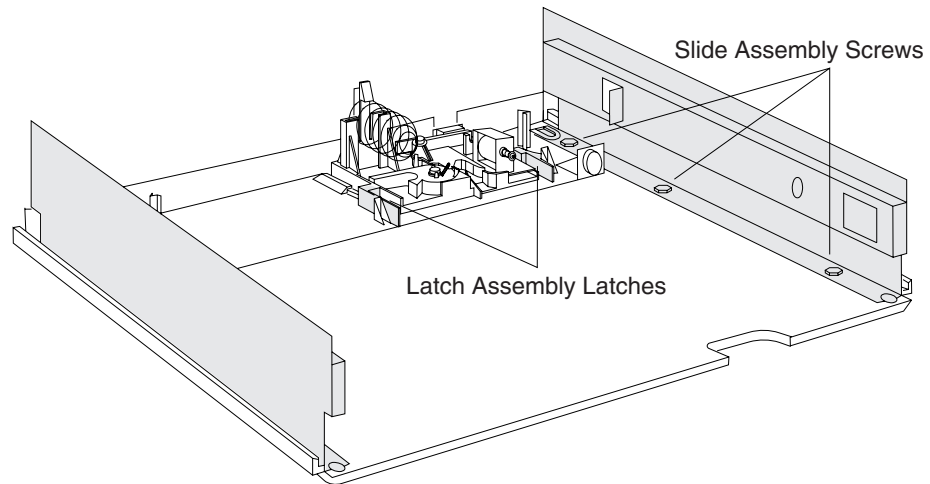

Figure 86. Removing cash-drawer slide assembly
4. Remove the three screws that secure the slide to the base and lift out the slide assembly, as shown in Figure 86 on page 107.
3. Reach in from the front and push the latch on each side of the latch assembly inward while pulling the assembly toward the front (see Figure 86 on page 107).